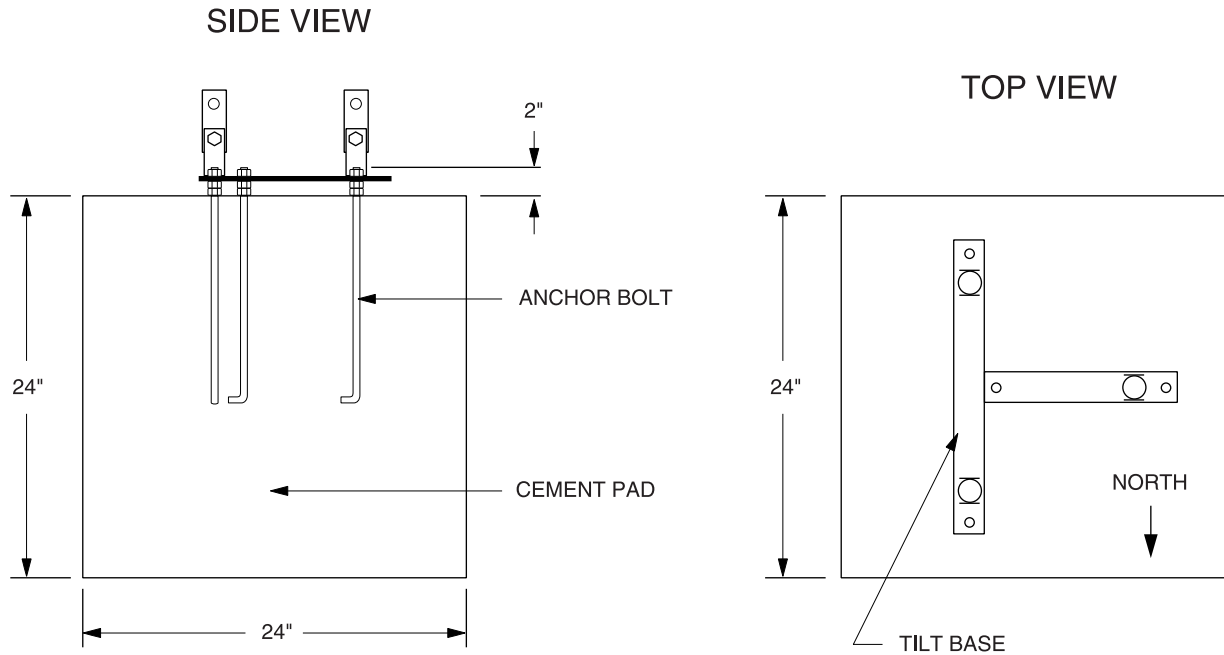

FIGURE 2.2-3. Concrete Foundation and Anchor Bolts
3. Assemble the anchor bolts and tilt base as shown in Figure 2.2-3. There should be two nuts below the base and one nut above.
4. Fill the hole and form with concrete. Screed the concrete level with the top of the form. Allow the concrete to setup enough to support the weight of the base*, then position the base (with the anchor bolts attached) over the center of the concrete foundation and press the anchor bolts into the concrete as shown in Figure 2.2-3. The bottom of the threads should be approximately 1/2" above the concrete. Level the base in both directions using a small level.